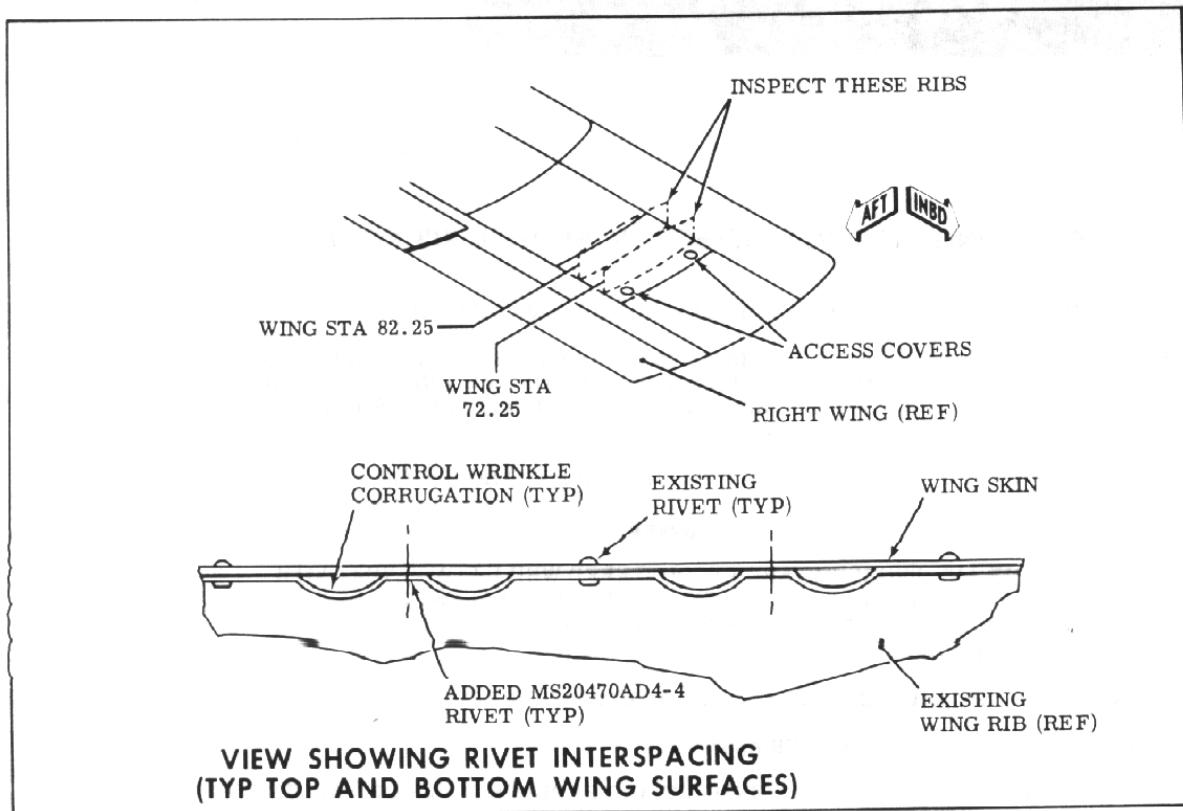

Figure 1.
- b. Add interspaced MS20470AD4-4 rivets between existing rivets on upper and lower flanges of wing ribs (See Figure 1).